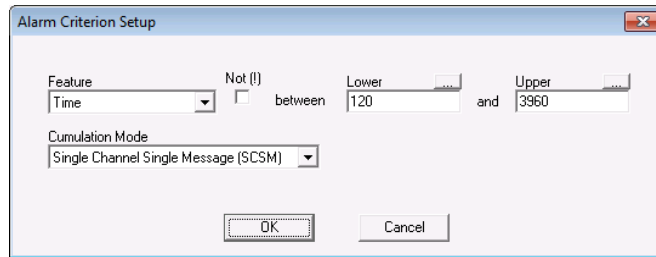

Figure 3-39. Alarm Criterion Set up
- **[...]** – These two buttons are visible only when the Feature is 'Time.' When clicked, they popup the Time Converter dialog box seen in **Figure 3-39**. This dialog box makes it simple to enter or modify a time of test value in hours/minutes/seconds/etc. Without having to manually convert into seconds. Both the 'Lower' and 'Upper' limit controls have one of these buttons.